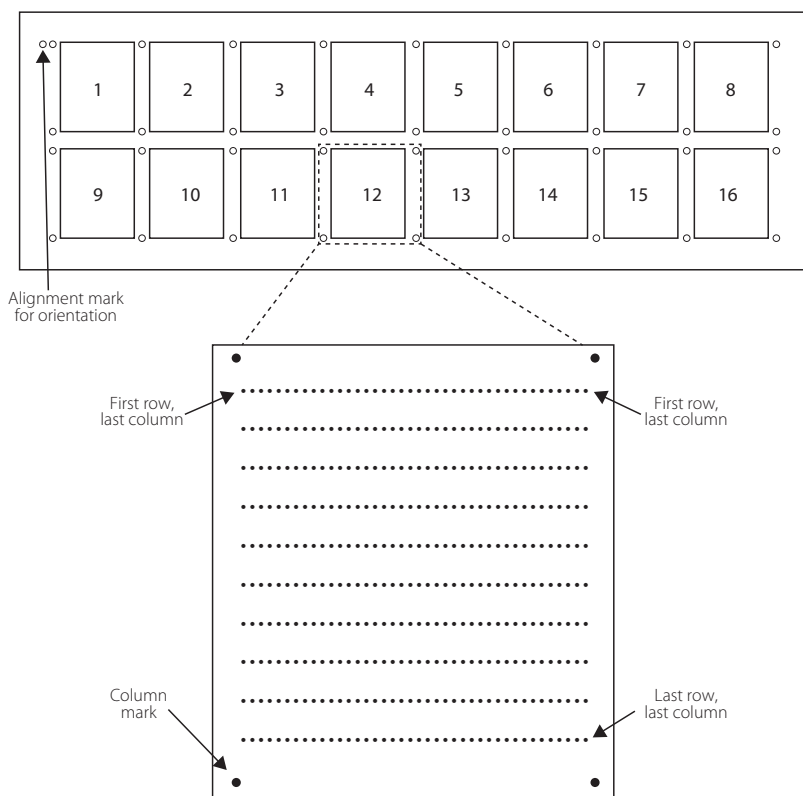

Figure 2-7: scWest chip layout with block numbering and registration well locations.
5. Select two blocks for registration (for example, Block 1 and Block 16 — the farther apart the blocks, the better the registration). Figure 2-7 shows the numbering scheme used to identify the 16 blocks on each scWest chip. If Preview position is checked, the software will move to the selected block and well in the image when a block number is selected from the pull down menus. Ensure the target wells are clearly visible. If a target well is damaged, missing, or difficult to see, choose another block.
6. The software will automatically rotate the image to the standard orientation (Figure 2-7) after registration. Optional: to correct for mirroring (for example, when loading a set of images, some of which were imaged from the gel side of the slide, and some of which were imaged through the glass), check **Allow flip** and specify a third registration point.